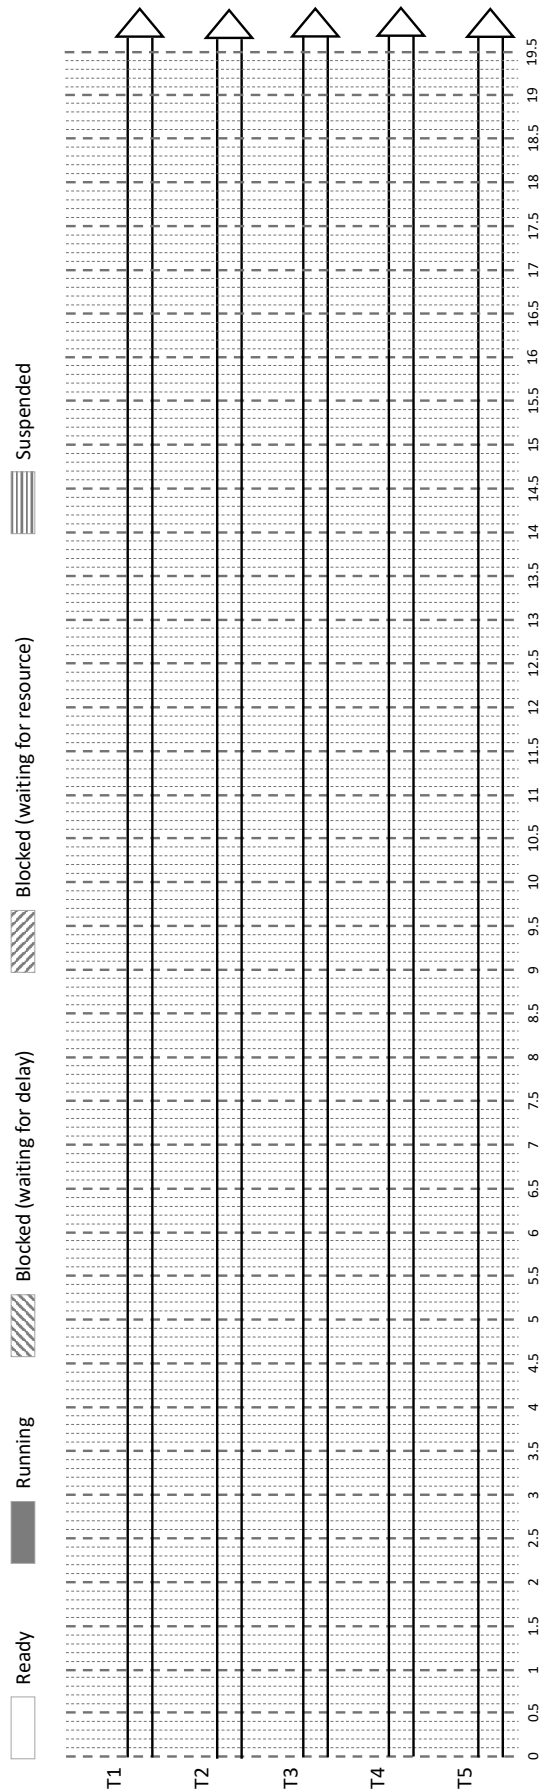

FIGURE 1.2 – SJF (Shortest Job First) trace.
2. SJF (Shortest Job First), (cf figure 1.2).